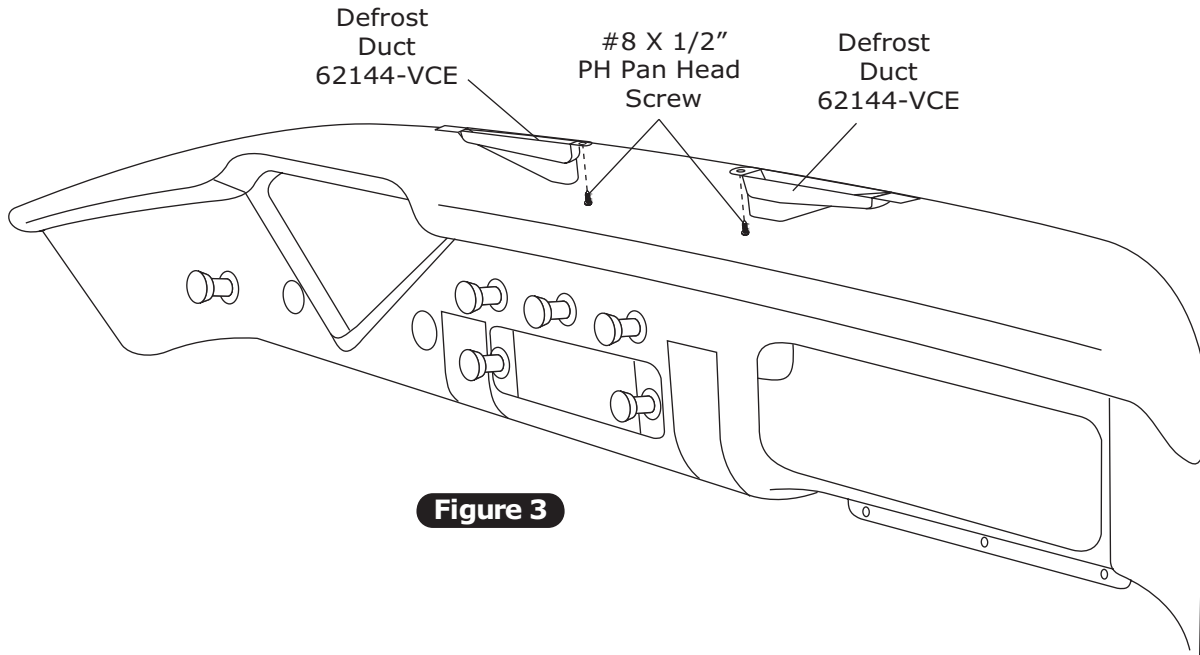

Figure 3
1. Install driver and passenger side defrost ducts using (2) #8 x 1/2" PH pan head screws as shown in Figure 3, below.